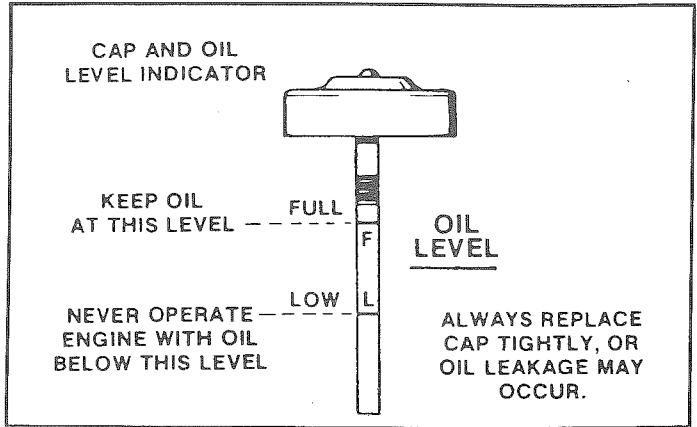

Figure 204 – Checking Oil Level
**Crankcase Oil** – The set oil capacity is 3 U.S. quarts plus 1/2 quart for oil filter change. Fill the crankcase until the oil reaches the "FULL" mark on the oil level indicator (see figure 204). **DO NOT OVERFILL.** (Overfilling may cause